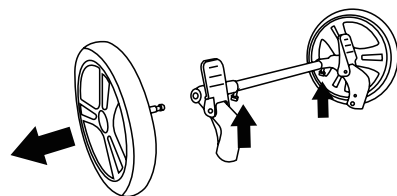

Fig.15a
- 15)** • To release the entire rear wheel assembly, push in the rear wheel release. The wheel easily detaches from the bushing (Fig.15a).